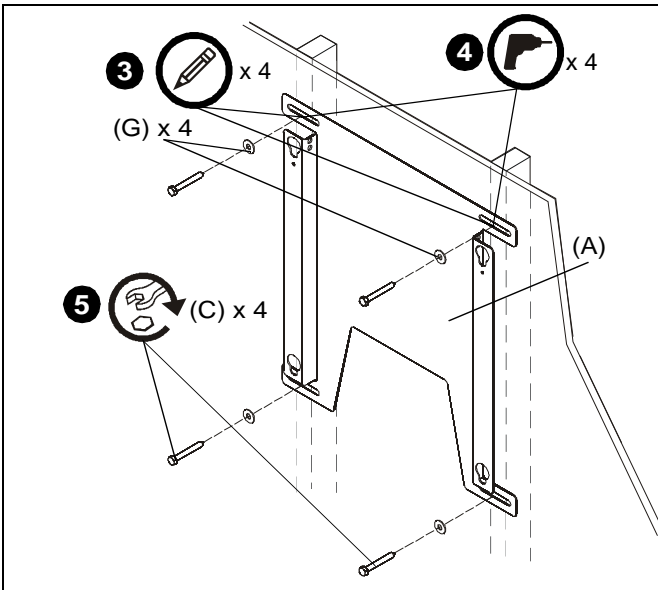

Figure 1
3. Use static mount (A) and a level to mark four mounting holes in the center of two studs. (See Figure 1)
4. Drill four 7/32" pilot holes at marked locations. (See Figure 1)
5. Use four 5/16-20 x 2 1/2" lag bolts (C) and four 5/16" washers (G) to secure static mount (A) to wall. (See Figure 1)